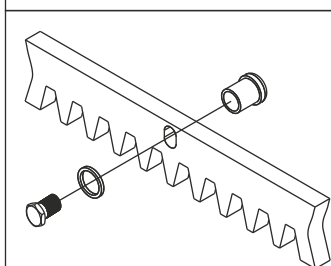

Fig. 6
**5.2.** Fix on each gear rack element the support pawls with the appropriate lock screws, making sure to put them in the upper part of the hole (Fig. 6);